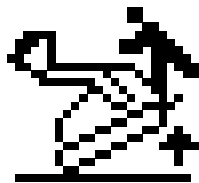

Figure 25
When you extend the loader arms to the maximum reach for the arm height and load weight, the InfoCenter will display the Smart Load icon (Figure 25) and flash the indicator light, an alarm will beep, and the arms will stop extending.
4. Use hand tools to rotate the hardware clockwise until the brake is released or you cannot rotate the screw (Figure 25).